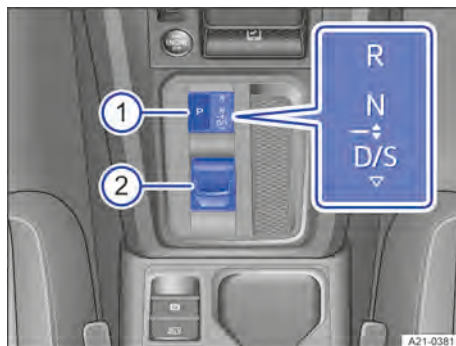

Fig. 108 In the centre console: selector lever for the automatic transmission with button for parking lock.
The selected position is shown on the instrument cluster display and on the lower part of the centre console when the ignition is switched on → Fig. 108.
1. Press the button  → Fig. 108 ①.
→ Fig. 108 ②.